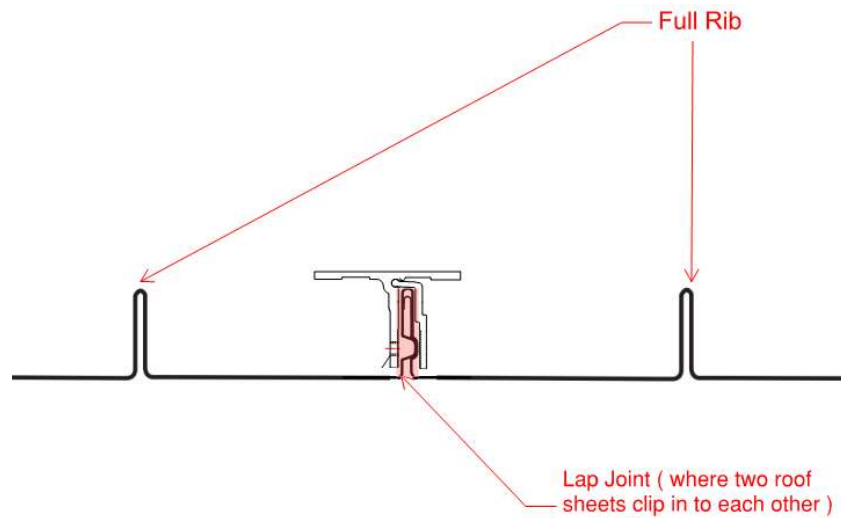

Figure 1 - Lapped Joint Definition
For a definition of a **lapped joint** in the roof sheeting, please see **Figure 1**.
- Roof clamps to be fixed only to the **lapped joints** of roof sheeting on top of the purlins (See **Figure 1**)